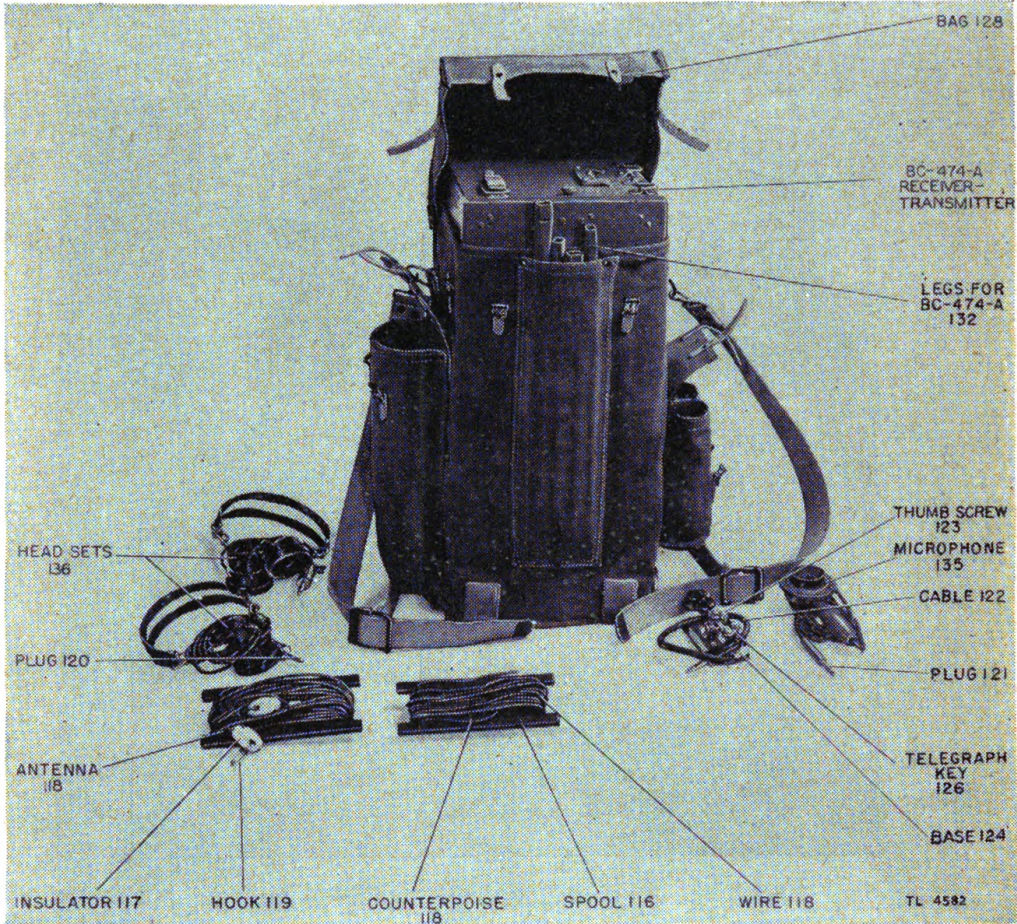

FIGURE 2.—Radio receiver and transmitter BC-474-A and component parts.
ator. The complete equipment weighs approximately 71 pounds. Three waterproof carrying cases are provided into which the equipment may be packed for transportation or storage. (See figs. 2 and 3.)
Radio receiver and transmitter BC-474-A with bag, four legs, two headsets, key, microphone, and one battery pack (fig. 2).....pounds.. 37
7. Initial procedure.—Unstrap covers of carrying cases and and remove all parts. (See figs. 2 and 3.) For the method of packing see paragraph 2.